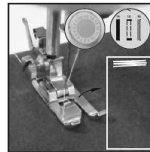

Fig.15
- (1) Pull the cloth under the presser foot and lower the presser foot on the cloth where you need to sew buttonhole, then choose the 15th stitch.
- (2) Turn on the switch and sew 5-6 stitches in low speed, then turn off the switch (Fig.15).